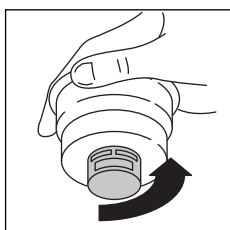

fig. 29
- Replace the assembly in the steel filter container (fig. 29), making sure the pin is inserted in the hole in the support (see arrow in fig. 29).